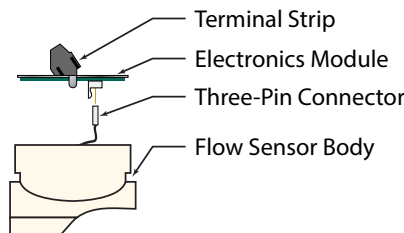

Figure 22: Electrical connection
- ◊ If the flow rate is sufficient, partially remove the electronic module. Check that the three pin connector that connects the electronics module to the flow transducers is positively connected. See *Figure 22*. Align and insert the connector on to the bottom of the electronics module if it is disconnected.